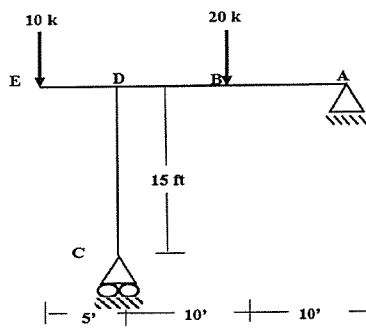

Figure 1
1. Calculate the vertical deflection at B of the frame shown in **Figure 1** by the Unit Load Method [EI= Constant] [8]